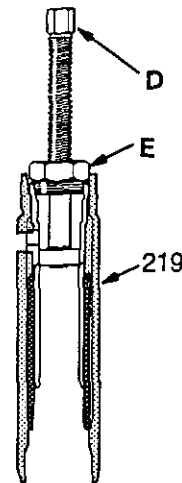

Fig 16-3
To use the tool: screw the large nut (E) of the tool into the top of the cylinder (19). Screw down the rod (D) to push the sleeve out. Remove the tool. See Fig 16-3.